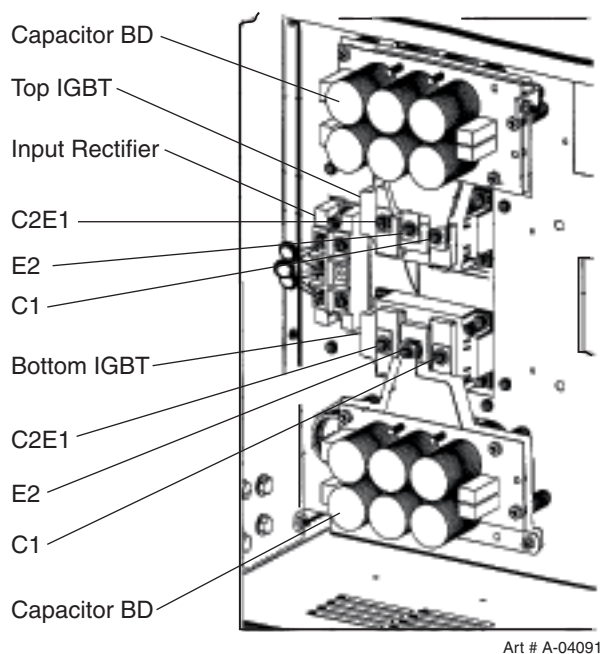

Figure 6-1: Input Rectifier IGBT Modules
- A. See Figure 6-1 and/or Appendix 3 Connection Diagram.*
- A. Refer to Figure 6-1 and/or Appendix 3 Connection Diagram.